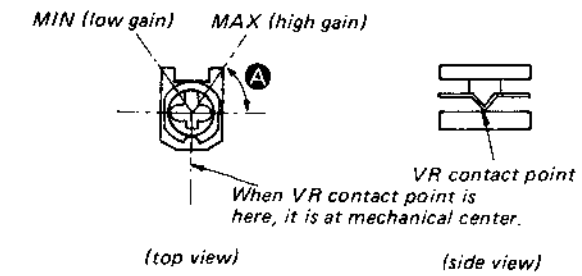

Fig. 8 Mechanical Center (seen from chip mounted side)
6. Set RV501 to the position about 30° counterclockwise from the position obtained in step 5. RV501 contact point location is within the range shown in Fig. 8 A, tracking gain is too high. In this case, readjust from step 4.